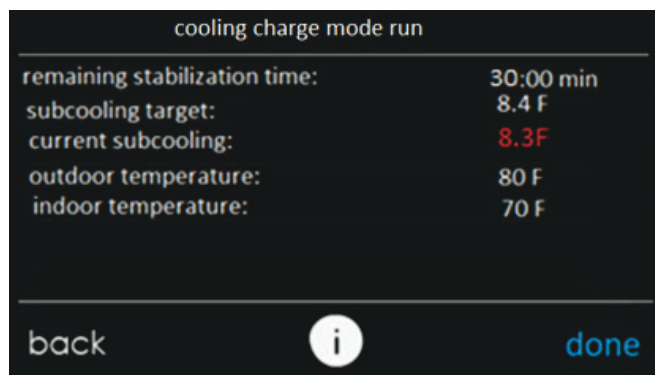

Fig. 19 – Cooling Charge Mode Run Screen ^{A240375}
9. Once start has been pressed, the next screen will show the target subcooling that should be attained while charging. If subcooling mode is not available, the current subcooling and target will display as dashes and the refrigerant must be weighed in. Weigh in the charge amount recorded in Step 7. The charge level may then be checked at another time when both the indoor and outdoor temperatures are in a more favorable range that allow for subcooling charging. When subcooling is available, the current subcooling will appear in red (Fig. 19) until the stabilization timer is 0 where it will then turn green, indicating the system has stabilized. "Current subcooling" is calculated using sensors inside the ODU, but may be in error until stabilization time has completed. Compare the "current subcooling" to the “subcooling target” listed on the charging screen. Add refrigerant if the subcooling is low and remove refrigerant if